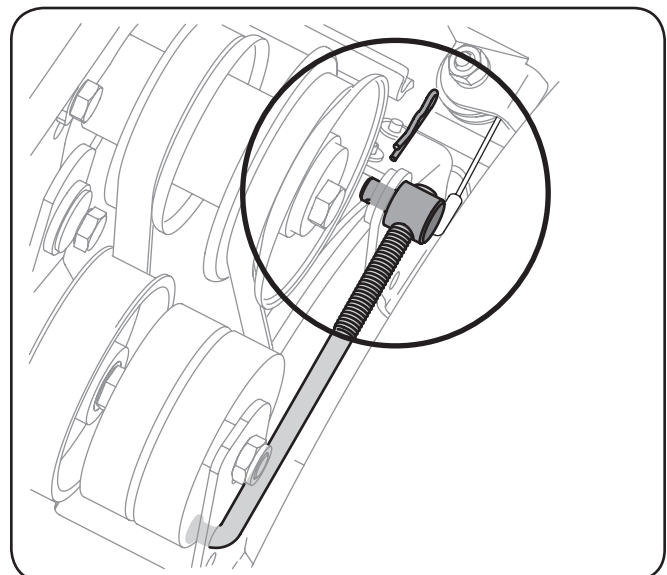

Figure 7-4
1. Remove the hairpin clip and flat washer from the ferrule in order to disconnect the auger idler rod from the brake bracket assembly. See Figure 7-4.